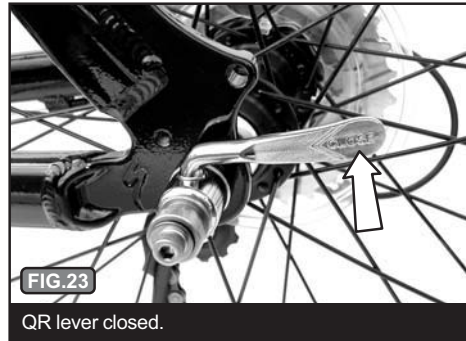

FIG.23
F) Move the QR lever until "CLOSE" is visible on the lever, Fig. 23, and it is parallel to the frame.